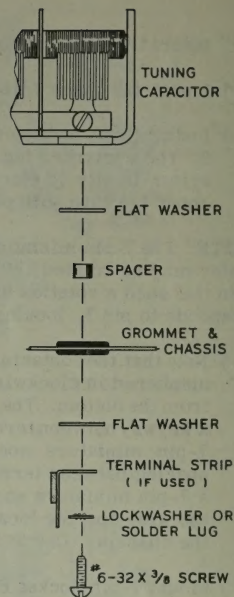

Figure 4
- (✓) Mount the tuning capacitor HH as in Pictorial 2. Use 6-32 x 3/8 screws, large flat washers, 3/16" spacers and solder lugs on the two holes nearest the chassis edge. A 2-lug terminal strip EE, lockwasher, flat washer and 3/16" spacer are used at the third hole. Refer to Pictorial 1 and Figure 4.